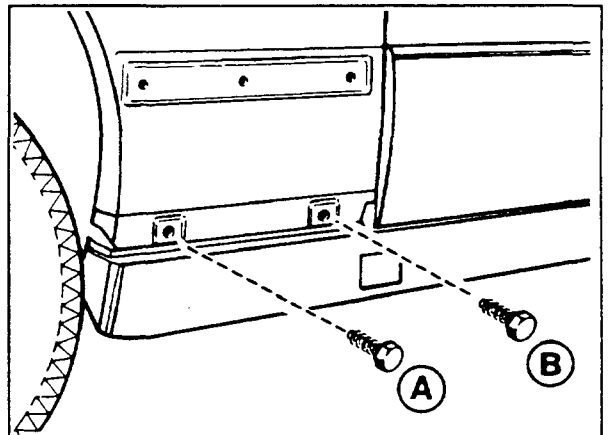

Figure 15
8. Remove the two fastening bolts (A and B, Figure 15).